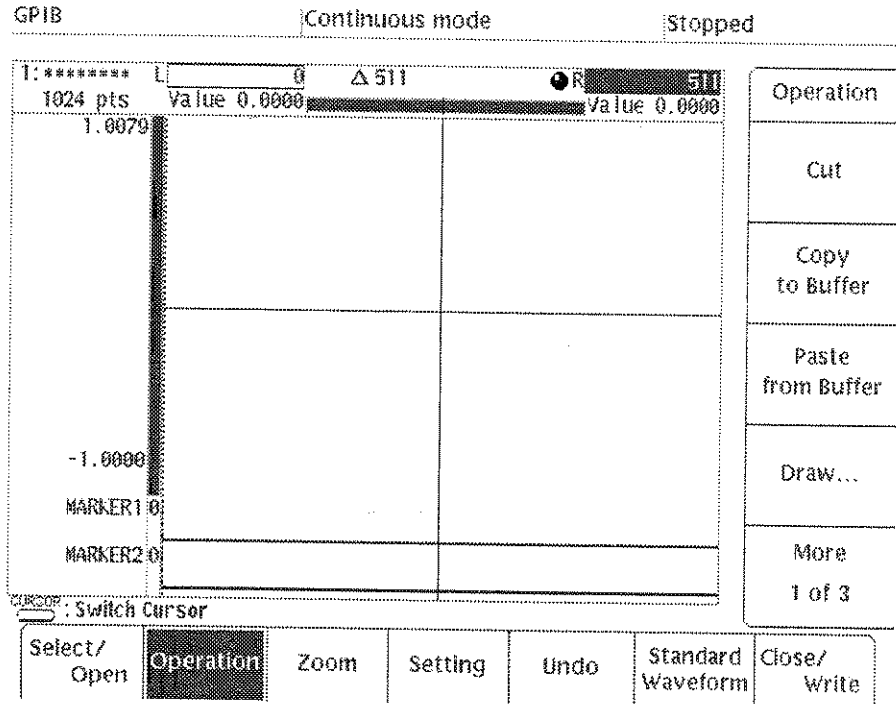

Figure 2-26: Setting the Point Value for the Right Side Vertical Bar Cursor
- Step 4:** Press the following key sequence: **5**, **1**, **1**, **ENTER**. This sets the point value for the right side vertical bar cursor to 511 (see Figure 2-26).